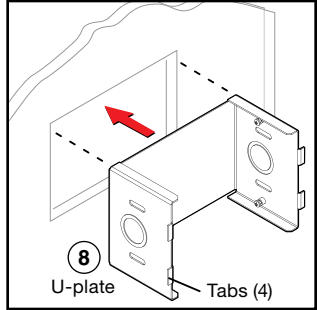

Figure 1.
8. Insert the U-plate into the hole (see figure 1).